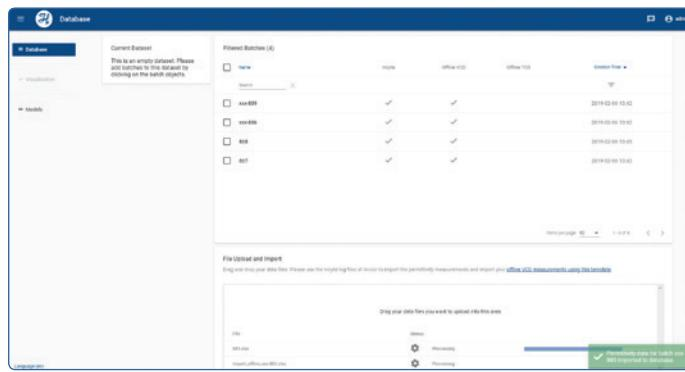
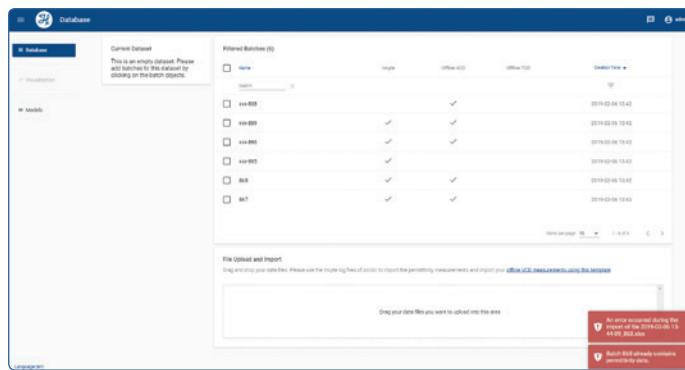

Figure 49: Successful Data Import
Figure 50: Failed Data Import
- 3) The import is indicated with a green (successful, figure 49) or red (not successful, figure 50) symbol, additionally the completeness of a dataset is shown in the database, an indicator with Incyte and one off-line value (VCD or TCD) has to be shown in table to ensure completeness.